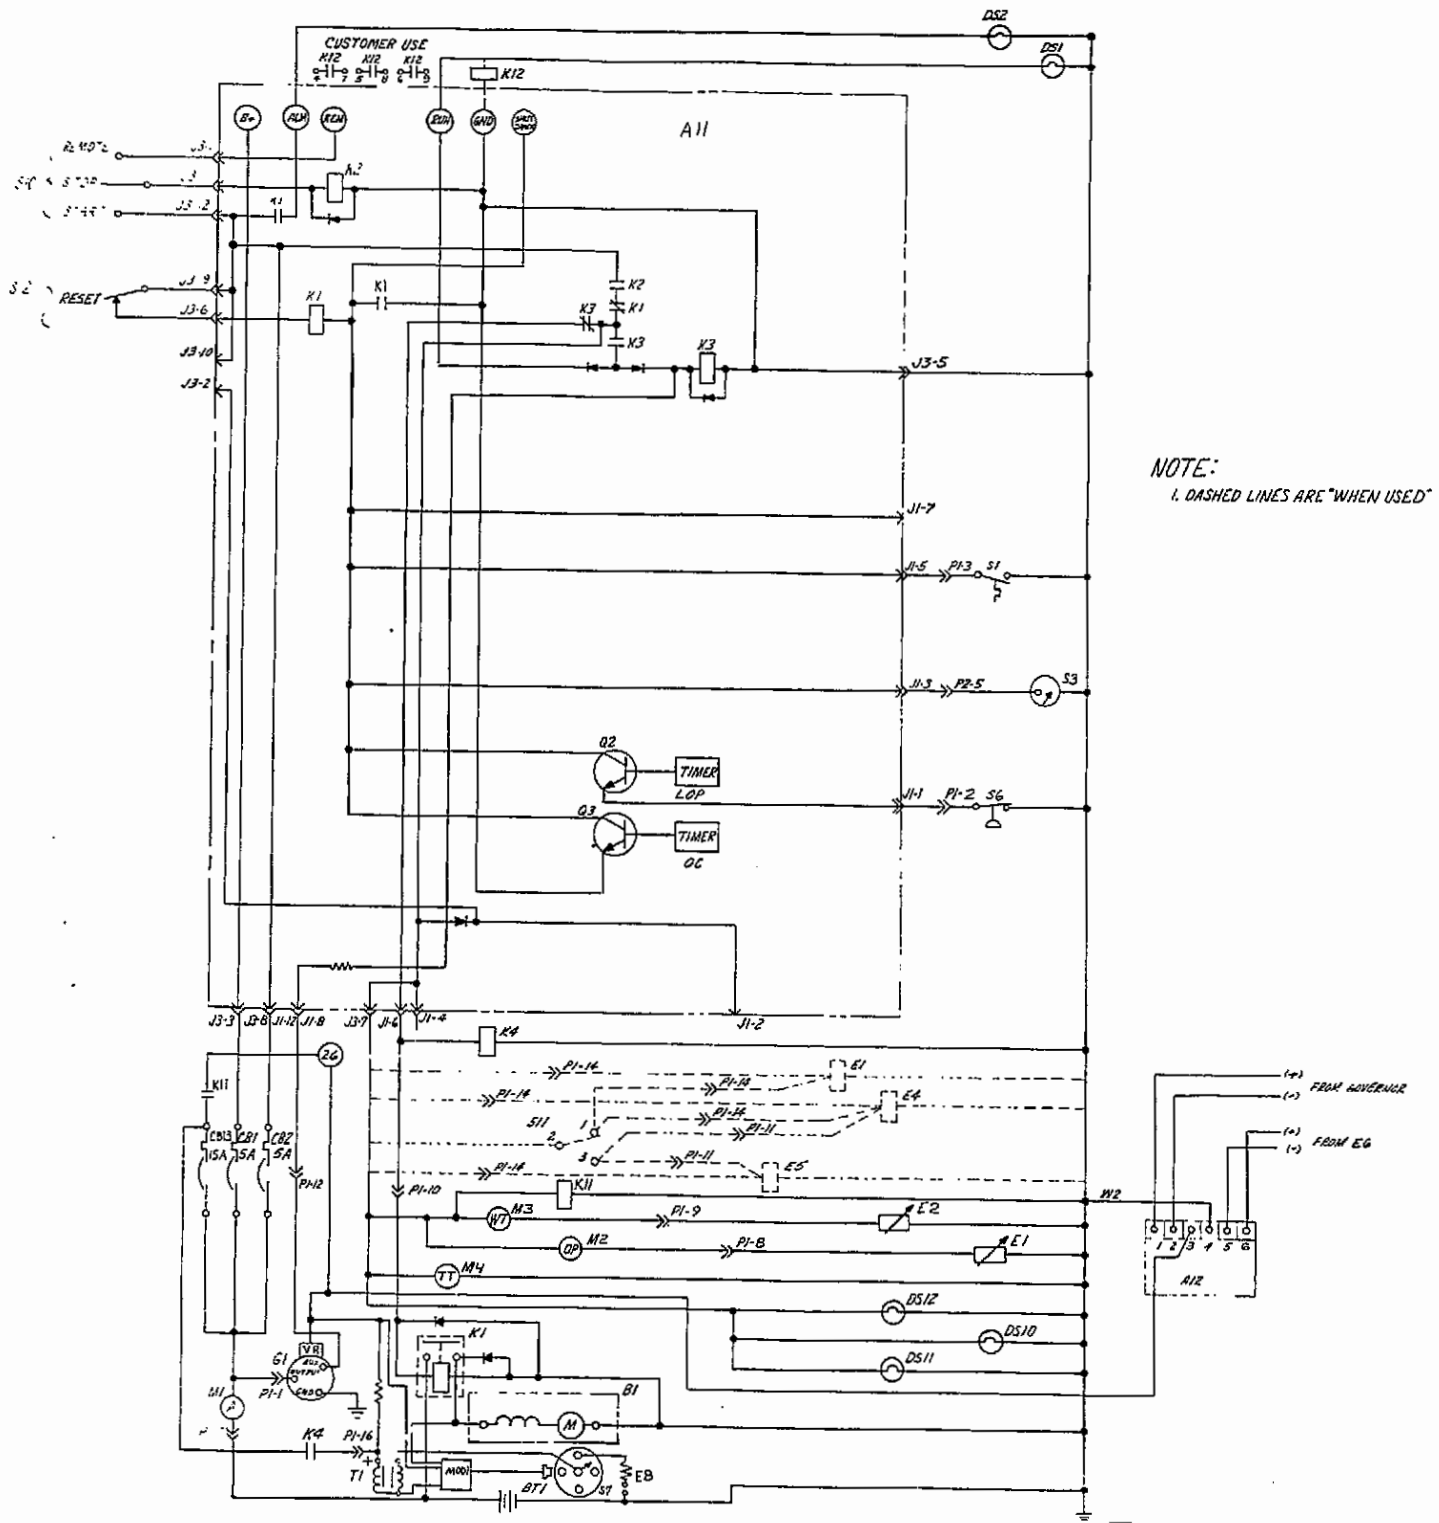

FIGURE 26. TYPICAL ENGINE CONTROL SCHEMATIC
Figure 26 shows a typical wiring diagram for the ES generator set described in the following Starting, Start-Disconnect and Stopping sequences. Relay contact references normally open (NO) and normally closed (NC) refer to position of contacts with the unit at rest (not energized).
To troubleshoot a problem, start at the upper-left corner of chart and answer all questions either YES or NO. Follow the chart until the problem is found, performing referenced Control Component Checkout procedures on page 30. Refer to typical wiring diagram in Figure 26 for locating control component leads, terminals and other check points.